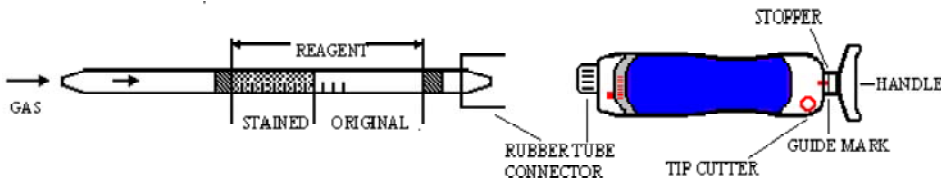

Fig.1
- ② Insert the detector tube into aspirating pump securely as shown in Fig.1 (Arrow mark shall point to the pump.)
- ③ Align the guide marks on the shaft and stopper of the aspirating pump.
- ④ Pull the pump handle at full stroke until it locks and wait for 1 minute or until the completion of sampling is confirmed with the flow indicator of the pump (See descriptions about the flow indicator in the instructions of the pump).
- ⑤ On completion of sampling, read the scale at the maximum point of the stained layer.
- ⑥ If the discolouration is over the scale, change the tube and pull 1/2 strokes as stated below.
- ⑦ Insert the new tube to the pump inlet. Pull the handle at 1/2 strokes (to 50 ml line), and it will be automatically locked. Leave it for 0.5 minutes as it is.
- ⑧ Remove the detector tube from the pump and read the concentration.
- ⑨ Then multiply the reading value by 2.